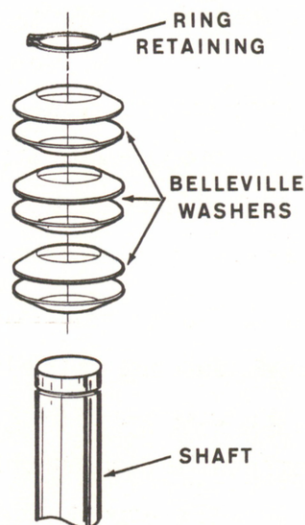

Figure 6-4 Belleville Washers Assembly
6.54 In those cases, where adjustment alone is necessary, certain disassembly procedures may be required to gain access to the malfunctioning part. Where replacement of the part is required, the faulty part should be removed by proper disassembly, re-assembled correctly and adjusted as required. Care is to be exercised at all times in the actual removal of parts and their subsequent replacement. Figure 6-4 shows the proper manner in which Belleville washers should be re-assembled.
- Step 2: Remove the six Belleville washers and pulley from the shaft. (See Figure 6-4 for the method of re-assembly of Belleville washers.)